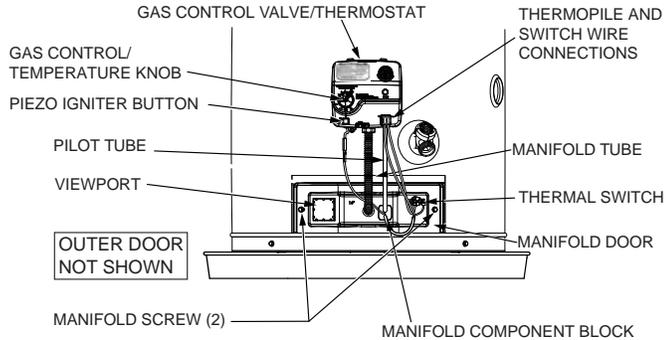

FIGURE 23.
- Remove the screws (1/4" nut driver) securing the manifold/burner assembly to the combustion chamber. See Figure 23.
2. Inspect the viewport for damage and replace as required (Figure 23).